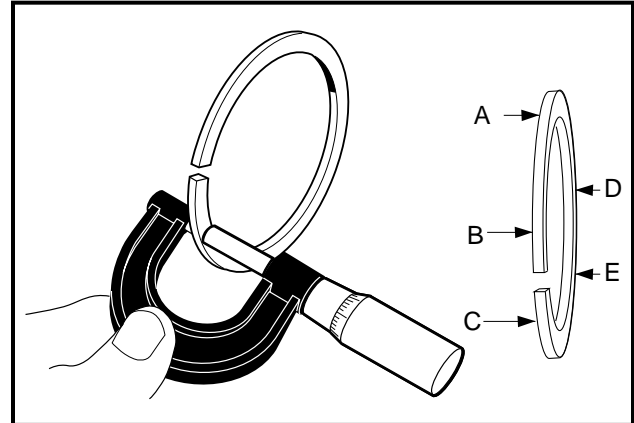

Figure 13-54 Measure Piston Ring Thickness
4. Using a micrometer, measure the thickness of both piston rings at several points around the rings (Figure 13-54, Page 13-28).